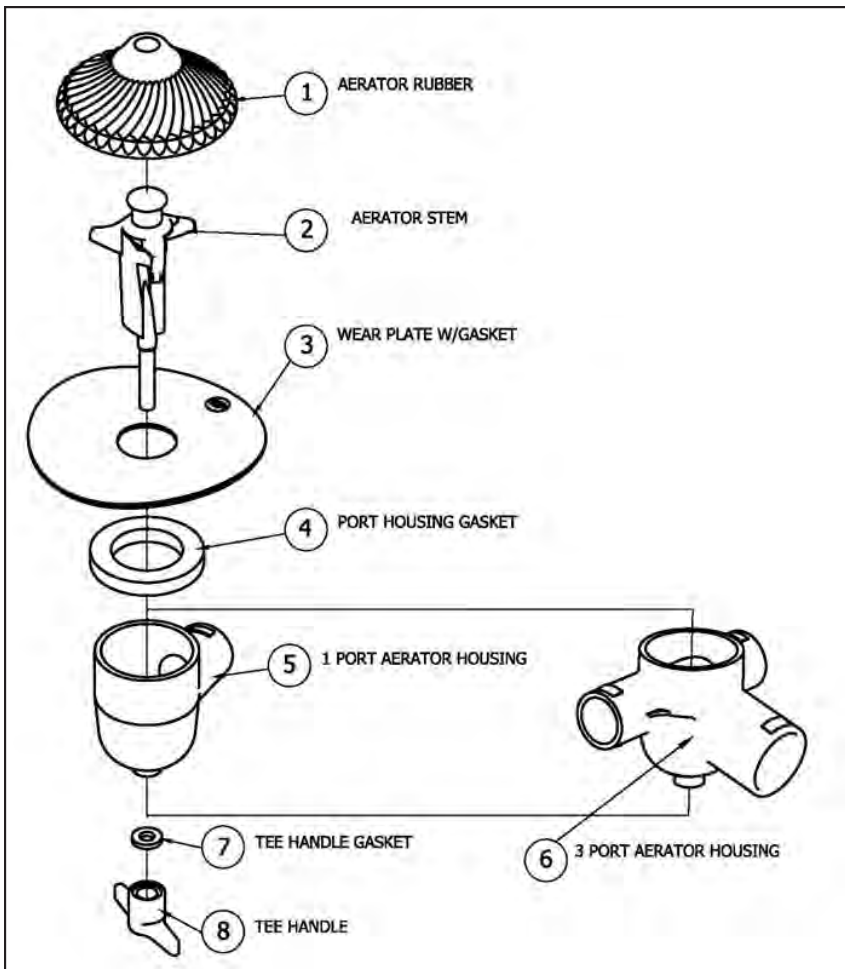

Figure 10. Exploded View of Aerator
3. Check aeration device on interior of tank. Look for torn molded neoprene cone(s), rotated wear plate(s) or plugged aerator housings (see Figure 10). Replace as necessary.